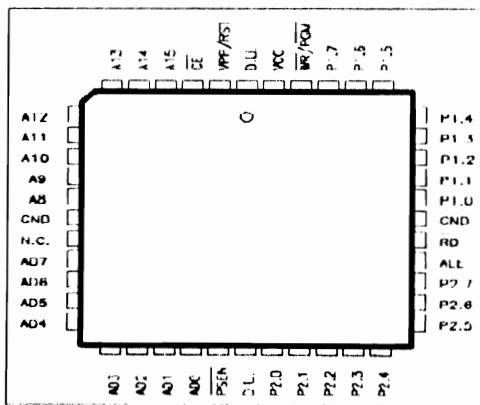

Figure 7. PLCC Pinout.
Figure 7 shows the PLCC pinout. PLCC leads are in the same sequence as the CERDIP pinout. No connect(NC) and don't use(DU) leads are inserted at strategic locations. Future enhancements will use these leads for expanded features. DU leads should be left unconnected.